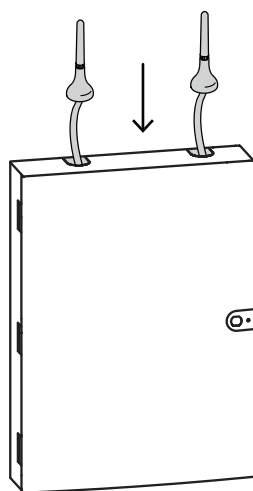

Figure 3.3: B444-A/B444-V antenna installation
1. Put the support leg into the support hole labeled X. Refer to *Figure 3.3*.